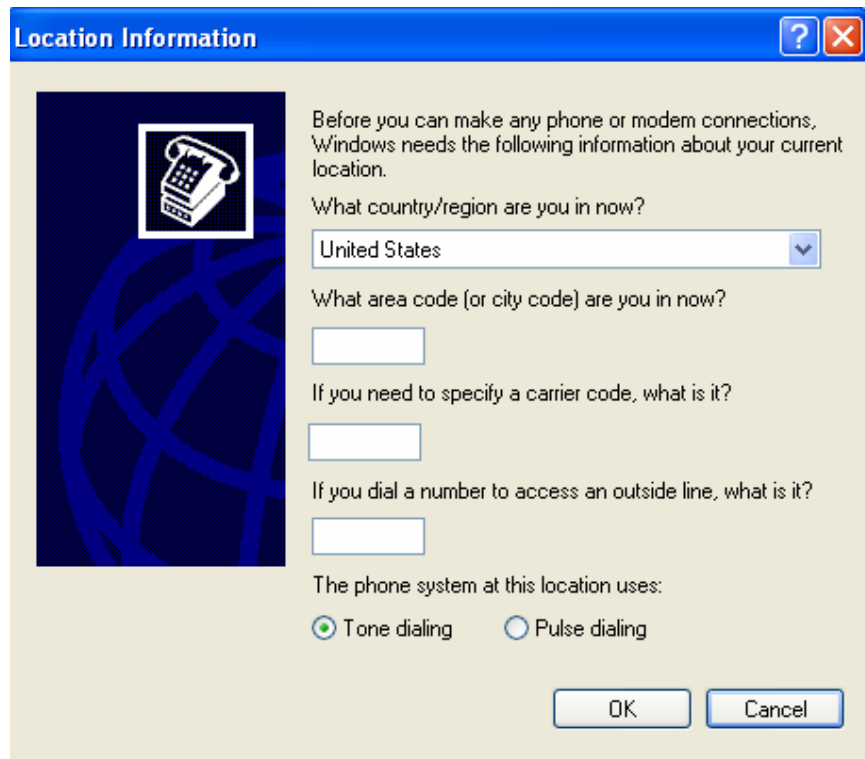

Fig1
1) Enter into start----all programs----accessories-----communications-----hyper terminal. Click hyper terminal. And fig 1 will pop up. Click cancel and select yes in the pop up dialog. then enter into fig 3.